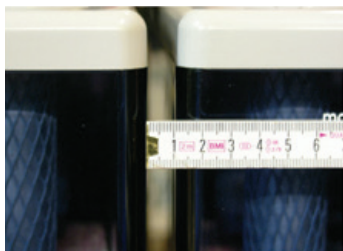

Fig. 5-13: 10 mm clearance between the batteries
3. Pull the end of the belt upwards through the loop (Fig. 5-7/ Fig. 5-13). Both ends of the belt must be at the same height over the battery.